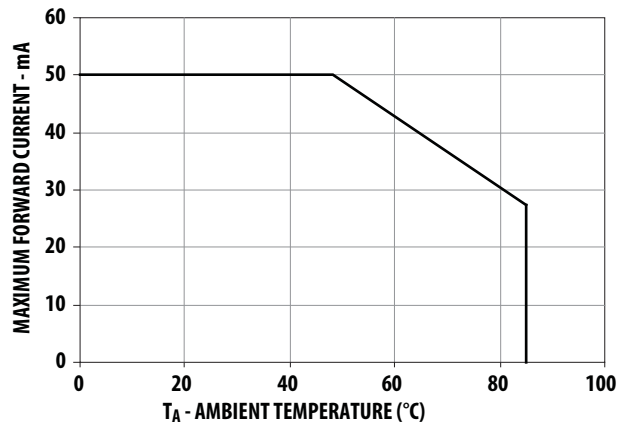
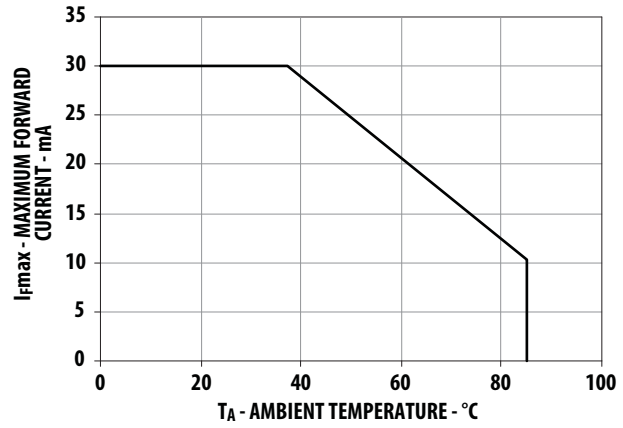

Figure 4. Maximum Forward Current vs Ambient Temperature
Figure 9. Maximum Forward Current vs Ambient Temperature
1. Derate linearly as shown in Figure 4 and Figure 9